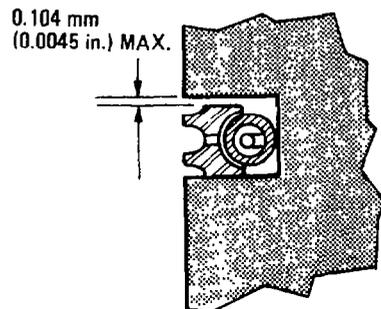

Fig. 79 — Side Clearance Measurements — Rectangular Rings
- h. For the rectangular compression rings and oil control rings, measure the side clearance in the same manner; the clearance must not exceed 0.104 mm (0.0045 in.) (see fig. 79).